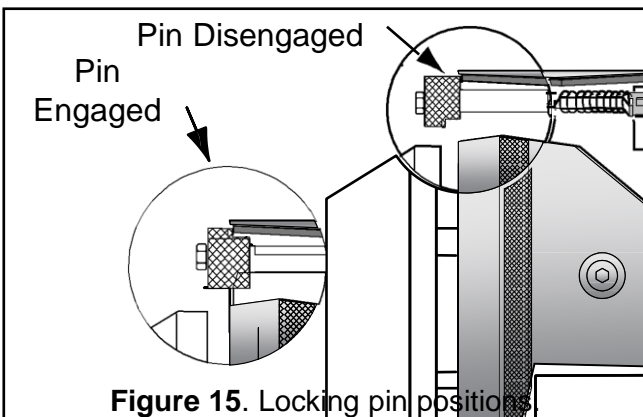

Figure 15. Locking pin positions.
2. Disengage the hub locking pin so the flat is turned toward the outer rim of the hub adapter as shown in **Figure 15**.